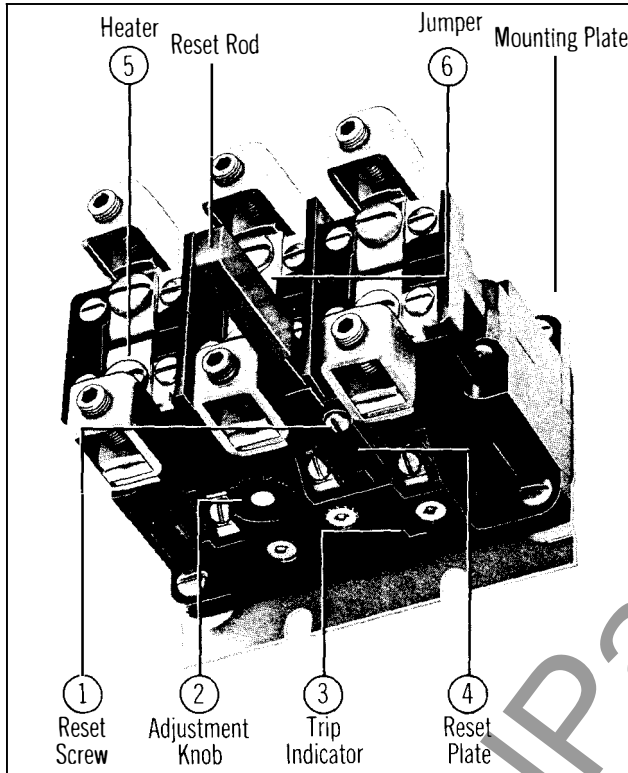

Figure 1 - Size 4, 2, or 3 Pole Overload Relay for Panel Mounting
The Westinghouse Type A, 2 or 3 Pole Overload Relay, Figure 1, must be installed in a vertical position with the adjustment knob (2) at the bottom. The relay is accurately calibrated at the factory and should not be tampered with. Installation should be made with the proper wire size for the application and all wires should be securely fastened to the relay.
**Manual or Automatic Reset** - The overload relay is normally furnished set for "HAND" reset operation. The relay may be set for either "HAND" or "AUTO" reset by slightly loosening the screw (1) holding the reset plate (4), moving the plate to the proper position marked on the molded case and retightening the screw. (See Figure 1). Automatic reset should not be used with 2-wire master switch or where automatic resetting of the overload relay would restore
**Adjustable Trip** - The trip rating of a specific heater element can be adjusted over a range of approximately 85% to 115%. This is accomplished by turning the adjustment knob (2) on the bottom of the relay to the respective stop position. With replaceable heaters (5) in approximately 10% current increments the relay is capable of being adjusted over this 10% range to permit the desired close protection.
**Trip Indication** - An immediate visible indication of trip is standard on the Type A, overload relay. When an overload occurs, which causes the relay to operate, a trip indicator (3) projects out through a small opening at the bottom of the relay. (See Figure 1).
Each heater is identified by a code marking stamped on one terminal. The heater application table indicates the range of full load motor current to which a given heater may be applied. Heaters should be applied based on motor nameplate rating. This range is so selected that the current to produce ultimate tripping of the relay will be approximately 105% to 125% of rated motor current. The rating of a heater is 125% of the minimum full load current. Heaters are not included with the relays and must be ordered separately per heater application table. When installing heaters be sure that connecting surfaces are clean and heaters are attached securely in the proper location with the screws provided. (See Figure 1).